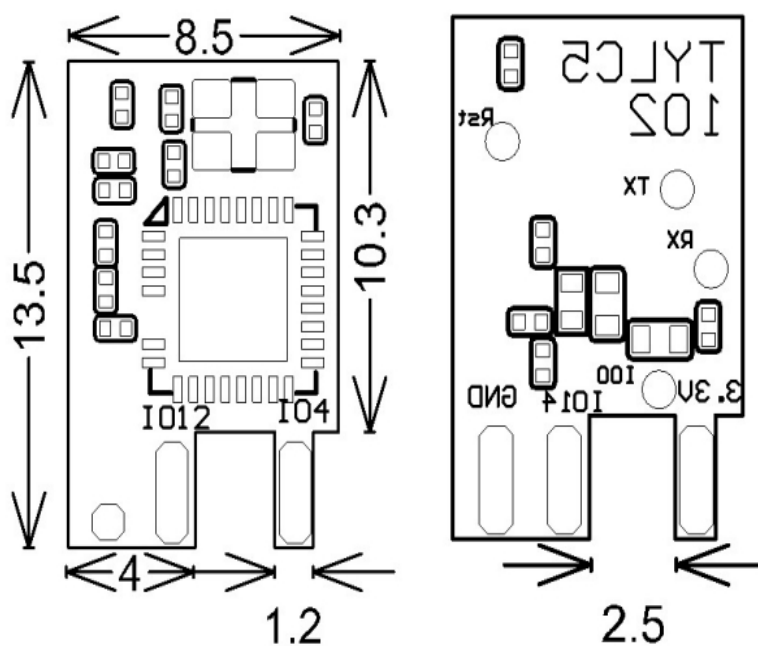

Figure 2 Dimensions of TYLC5
The size of TYLC5: 8.5mm (W)×13.5mm (L) ×3mm (H). The dimensions of TYLC5 is shown in Figure2.